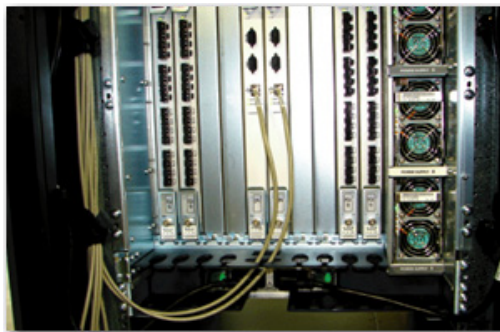

Figure 45 Connecting the ethernet cables (2 directors)
- Connect ethernet cable #1 to director connection CP5 and connect ethernet cable #2 to director connection CP6 (Figure 45 on page 65).
- Connect ethernet cable #3 to director connection CP5 and connect ethernet cable #4 to director connection CP6 (Figure 45 on page 65).
- Connect ethernet cable #3 to director connection CP5 and connect ethernet cable #4 to director connection CP6 (Figure 45).